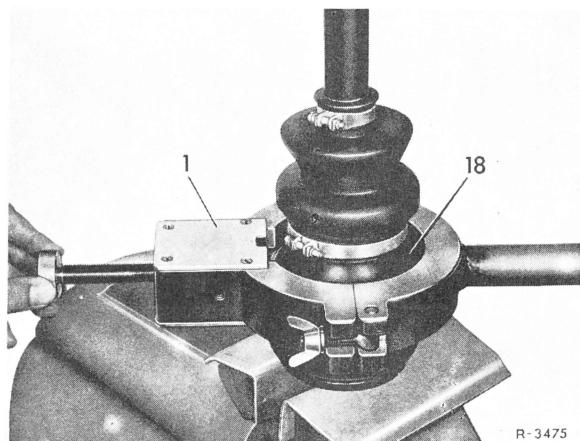

Fig. 2
1 Cut stop sleeve (18) of constant velocity joint on beaded edge with cutting tool (Fig. 2).